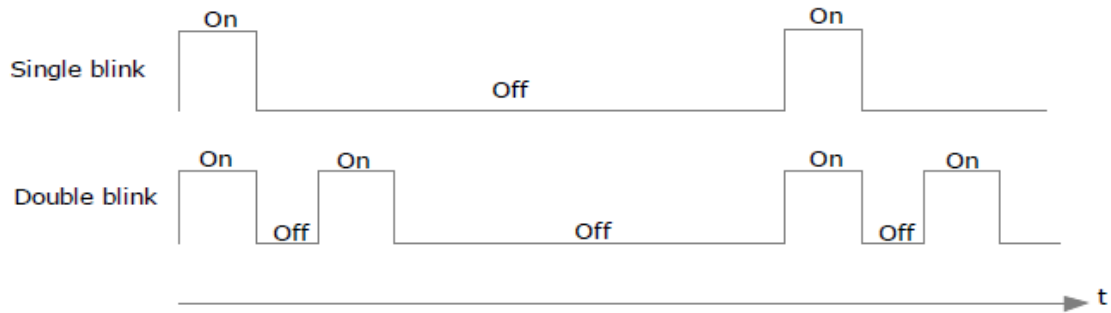

Figure 3
Figure 3 depicts two (2) blinking modes used to convey status as referenced in Table 3.